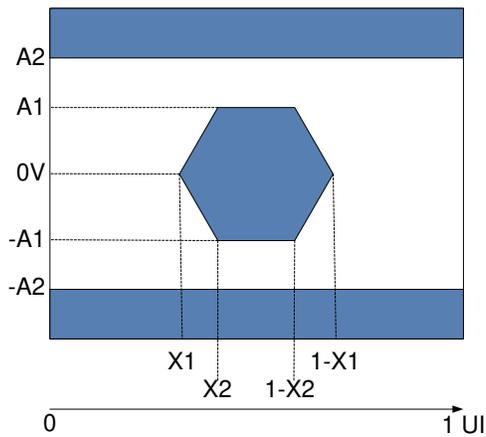

图 6-11. HSSI Eye Characteristics
(1) All power supply connections are required to operate the DMD: VDD, VDDA, VOFFSET, VBIAS, and VRESET. All VSS connections are required to operate the DMD.
(2) All voltage values are with respect to the ground pins (VSS).
(3) To prevent excess current, the supply voltage delta |VDDA - VDD| must be less than specified limit.
(4) To prevent excess current, the supply voltage delta |VBIAS - VOFFSET| must be less than specified limit.
(5) Supply power dissipation based on 3 global resets in 200 μs.
(6) LVC MOS input specifications are for pin DMD\_DEN\_ARSTZ.
(7) LVC MOS output specification is for pins LS\_RDATA\_A and LS\_RDATA\_B.
(8) Refer to Figure 6-11, Receiver Eye Mask (1e-12 BER).
- (5) See 图 6-11 for rise time and fall time for HSSI Eye Characteristics.